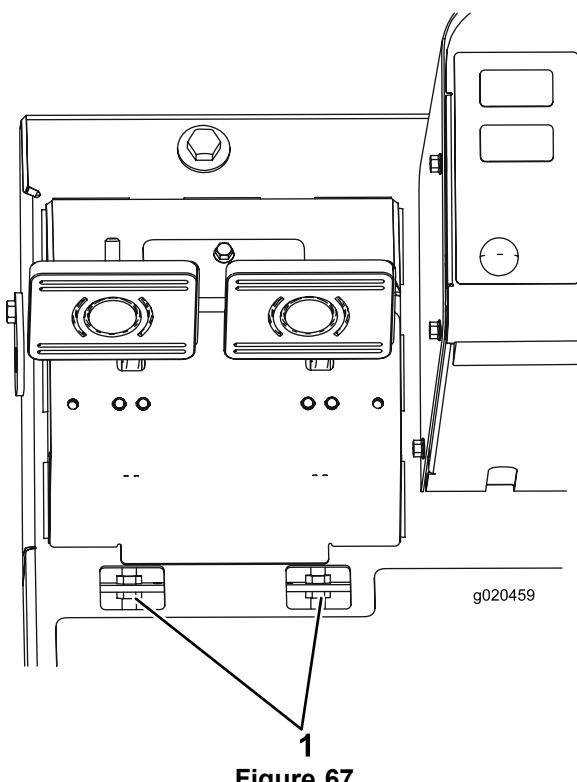

Figure 67
- Loosen the front nut on the threaded end of the brake cable (Figure 67).